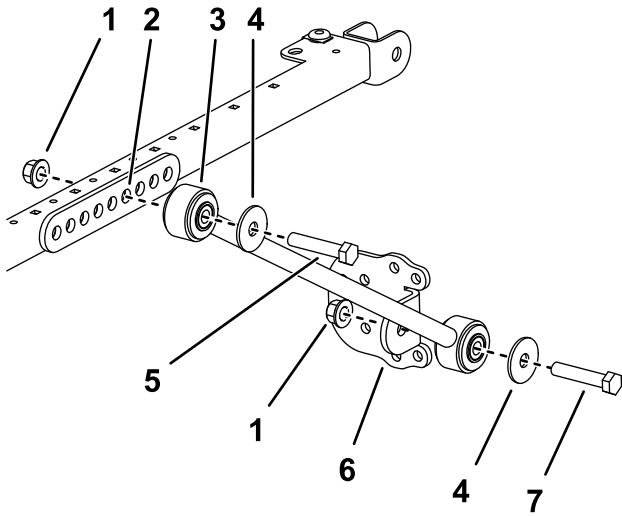

Figure 45
- On each side of the sunshade frame, loosely mount an extension link to the fourth hole of the brace mount with 2 bolts (1/2 x 2-3/4 inches), and 2 flange nuts (1/2 inch) as shown in Figure 45.
- Loosely install a brace bracket to each brace with a bolt (1/2 x 2-1/2 inches), washer (1/2 inch), and flange nut (1/2 inch) as shown in Figure 45.